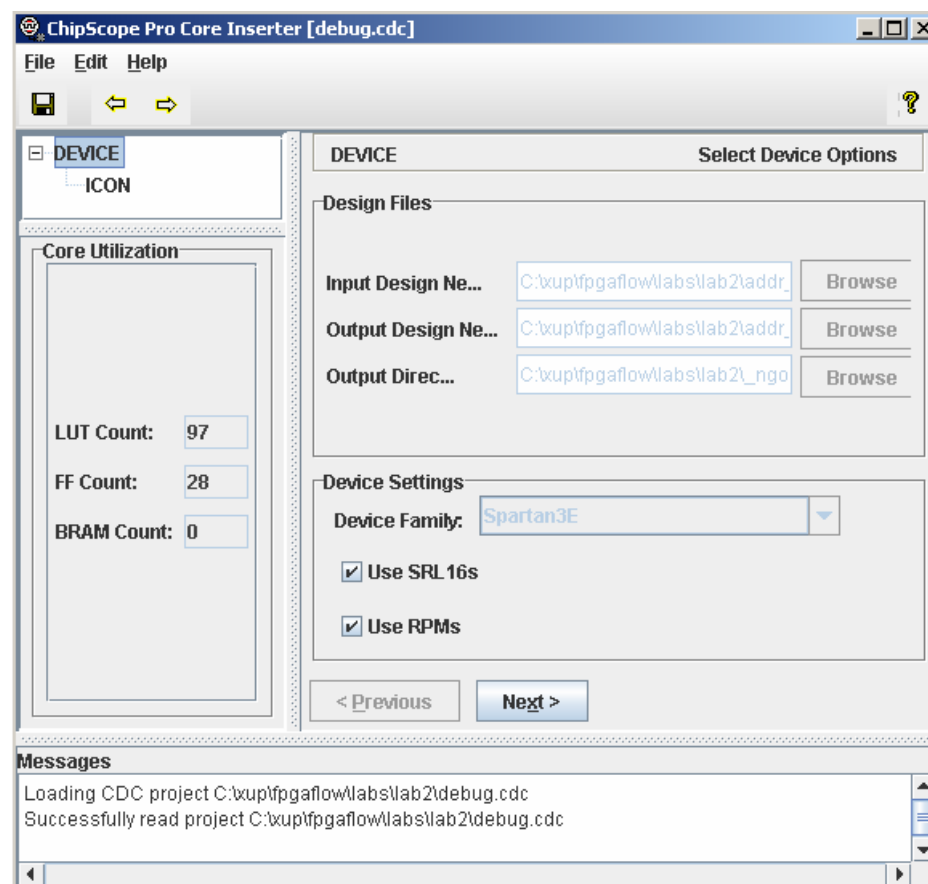

Figure 2.1 – ChipScope Pro Inserter GUI
- ❶ In the Sources for Project window double click on debug.cdc file to open the ChipScope Pro inserter.
- ❷ After completing the synthesis run, ChipScope Pro Inserter GUI opens as shown in Figure 2.1.